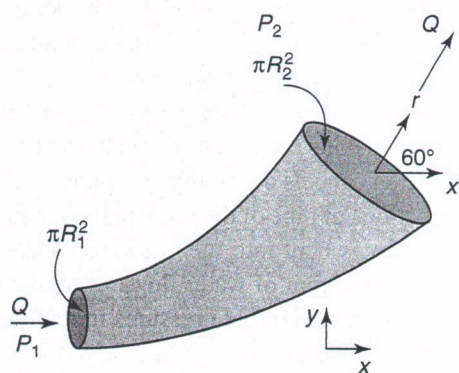

Figure 9.48
20. What is the direction and magnitude of the force needed to support the 60-degree expanding pipe bend shown in Figure 9.48? The water flow is steady and turbulent, the cross section of the inlet of the pipe bend is πR_1^2 , and the cross section of the outlet of the bend is πR_2^2 , where $R_2 > R_1$. Evaluate your answer for $R_1 = 0.545$ inch and $R_2 = 0.834$ inch.